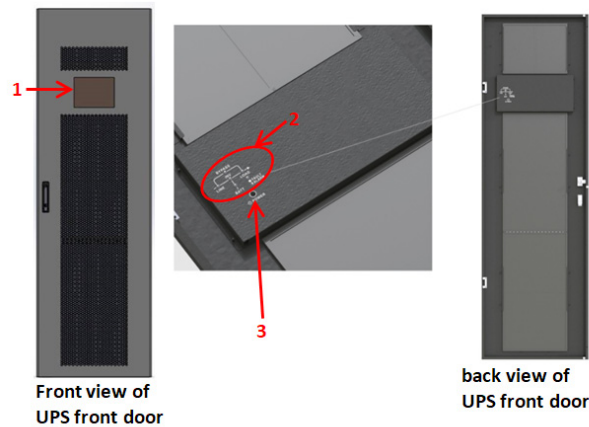

Figure 4-1 Control Panel
This control panel and display description are located on the front door of the UPS. It is the USER control, monitoring of all measured parameters, UPS and battery status and alarms. The control panel and display description are divided into four functional areas: (1) LCD display, (2) LED indications, (3) Control key, (4) Audio Alarm, as shown in Figure 4-1.